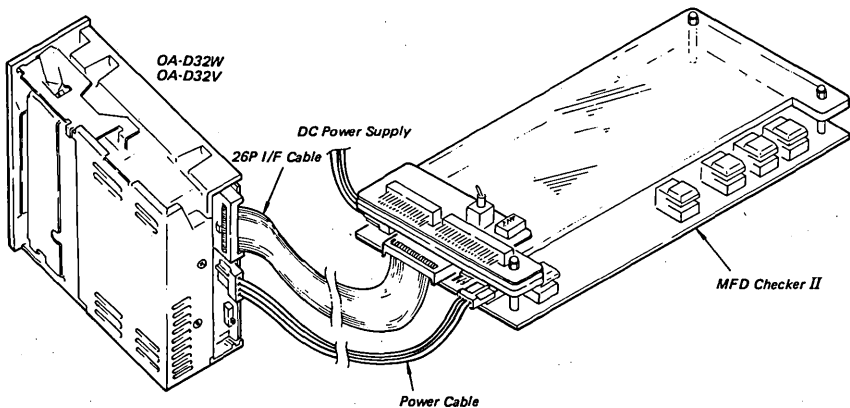

Fig. 2-1 Drawing of Connection Between Disk Drive and MFD Checker II
(2) Micro Floppydisk Drive Connection (Refer to Fig. 2-1)
(3) MFD Checker II function switches